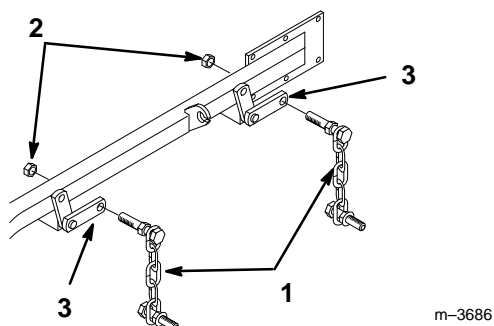

Figure 9
3. Remove one 7/16-14 flange nut from bolt in each chain assembly (Fig. 9).
4. Place bolt of chain into traction unit lift arm slot and secure with previously removed 7/16-14 flange nut (Fig. 9). Tighten flange nut securely.